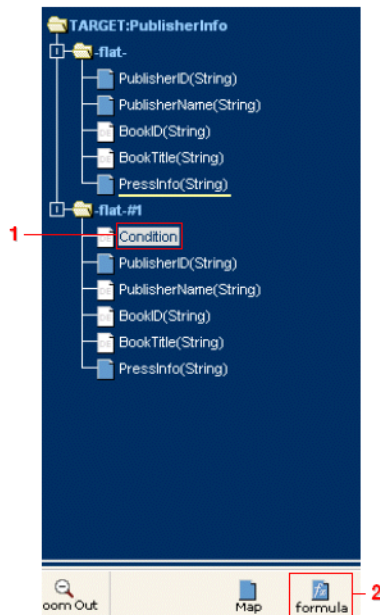

Figure 20-3. The Formula Builder is launched by clicking the **Formula** button.
- 5 The folder you selected will now display a new Condition data element (see Figure 20-3 below).